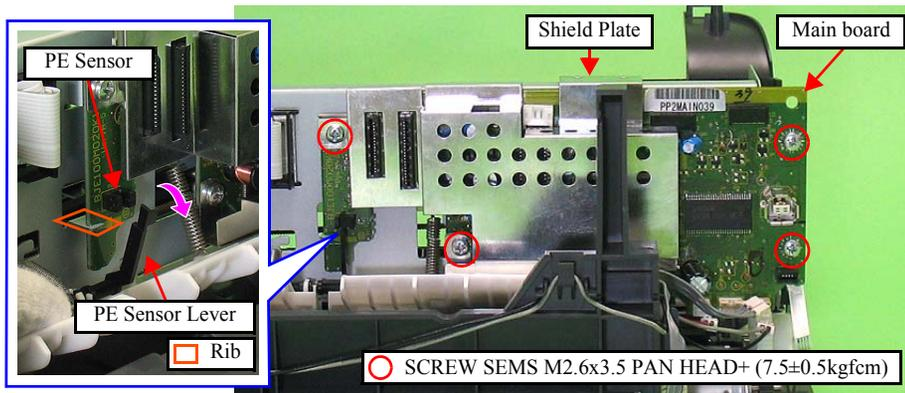

Figure 4-22. Removing the Main Board (2)
- When installing the Main Board, keep the PE Sensor Lever away (as shown in Fig.4-22) to avoid getting broken.
- Before tightening the screws, make sure to insert the Main Board to the rib of the Main Frame, and align the threaded hole of the Main Frame with the hole of the Main Board. (See Fig.4-22.)
- Tighten the screws in the order indicated in Fig.4-22.